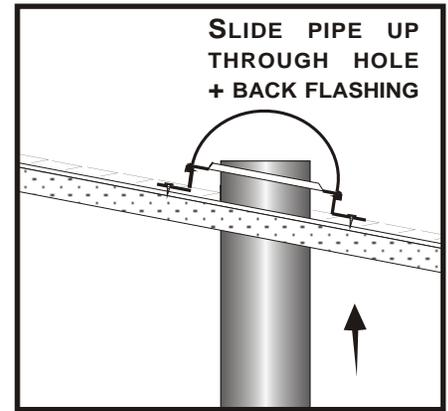
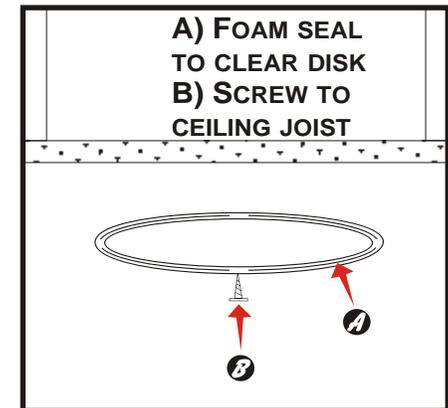

Figure 8
Figure 10
8. Now you are ready to install the pipe. Slide the pipe through the hole in the ceiling (crimped end down), pushing it up through the ceiling and past the flashing, at least $\frac{1}{2}$ inch (Fig.8). The pipe must extend at least $\frac{1}{2}$ inch above the rubber flashing. It may be necessary to trim the pipe to get it flush with the ceiling. If so mark around the pipe with a pencil at the ceiling (Fig 9A) and mark on the ceiling where the seam is located. This will help to keep the pipe lined up. Now pull the pipe down a little (you may need two pair of pliers to do this) 2 to 3 inches will be enough. (You can take the pipe all the way out if this is easier.) Cut around the pipe on your pencil mark with a pair of tin snips. Push the pipe up flush with the ceiling. Be careful! After cutting the pipe with tin snips it has very sharp edges. With the pipe in place secure the pipe to your ceiling joist with one truss head screw (Fig. 9B).Remove the protective film. Remove the paper back from the metal tape, tearing off pieces about 3 inches long and placing them about $1\frac{1}{2}$ inch in the pipe and taping the pipe to the ceiling, overlapping the tape, making sure the crack between the ceiling and the pipe is completely covered. Remove paper or film from clear plastic disk. Place the clear plastic disk over the end of the pipe as close to the center as possible, make sure one of the holes is lined up under the ceiling joist. Mark the other 3 holes; install the screw anchors in the drywall. . Remove the paper back from the white foam seal and place it on the clear plastic disk about $\frac{1}{4}$ " from edge of disk and over the screw holes (Fig.10).